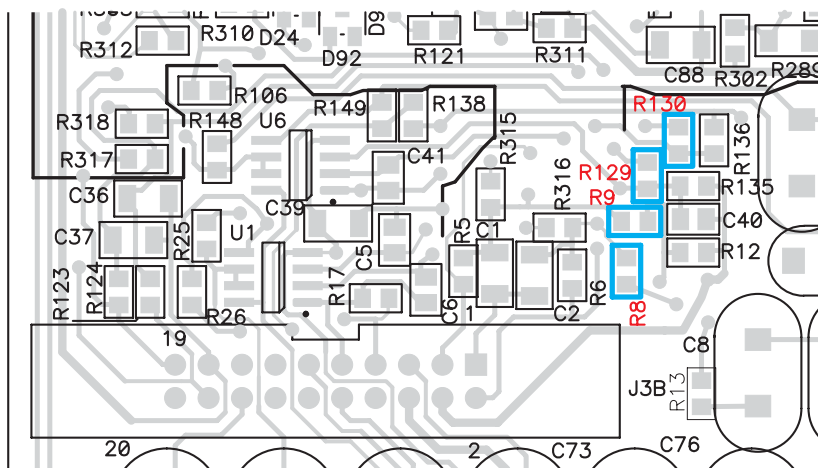

Figure 1
2. Locate R8 & R9 for channel 1 and R129 & R130 for channel 2 as shown in the figure 1. Replace them with matching resistors for the desired PL2 model. See Table 1.